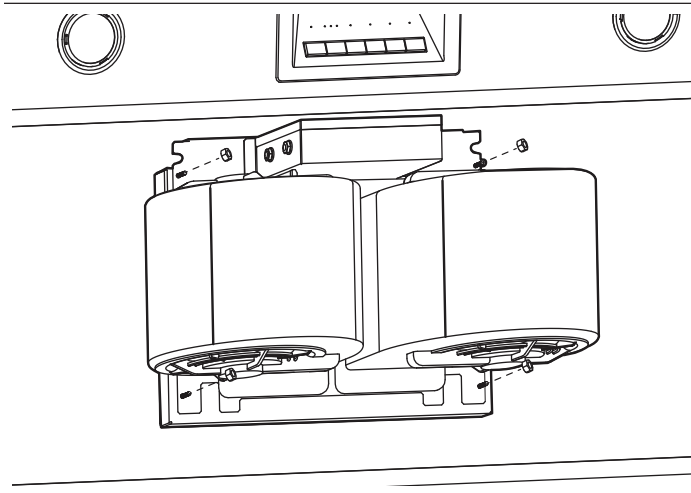

Figure 23: Weld Stud Locations
1. The blower is attached to the hood using weld studs provided on the mounting plate. Guide the motor mounting plate over the studs (*Figure 23*).
2. Attach (4) nuts (included with hood) to the weld studs. Tighten nuts to secure the blower to the hood.